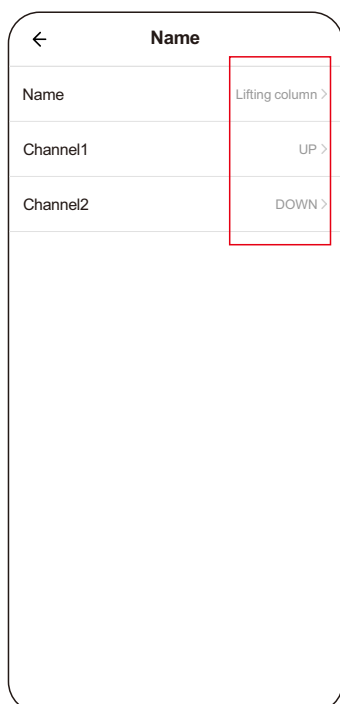

Figure 4
- ⑥ Turn ON the " Hide All ON/OFF " option. Enter " Inching Settings " (Figure 4).